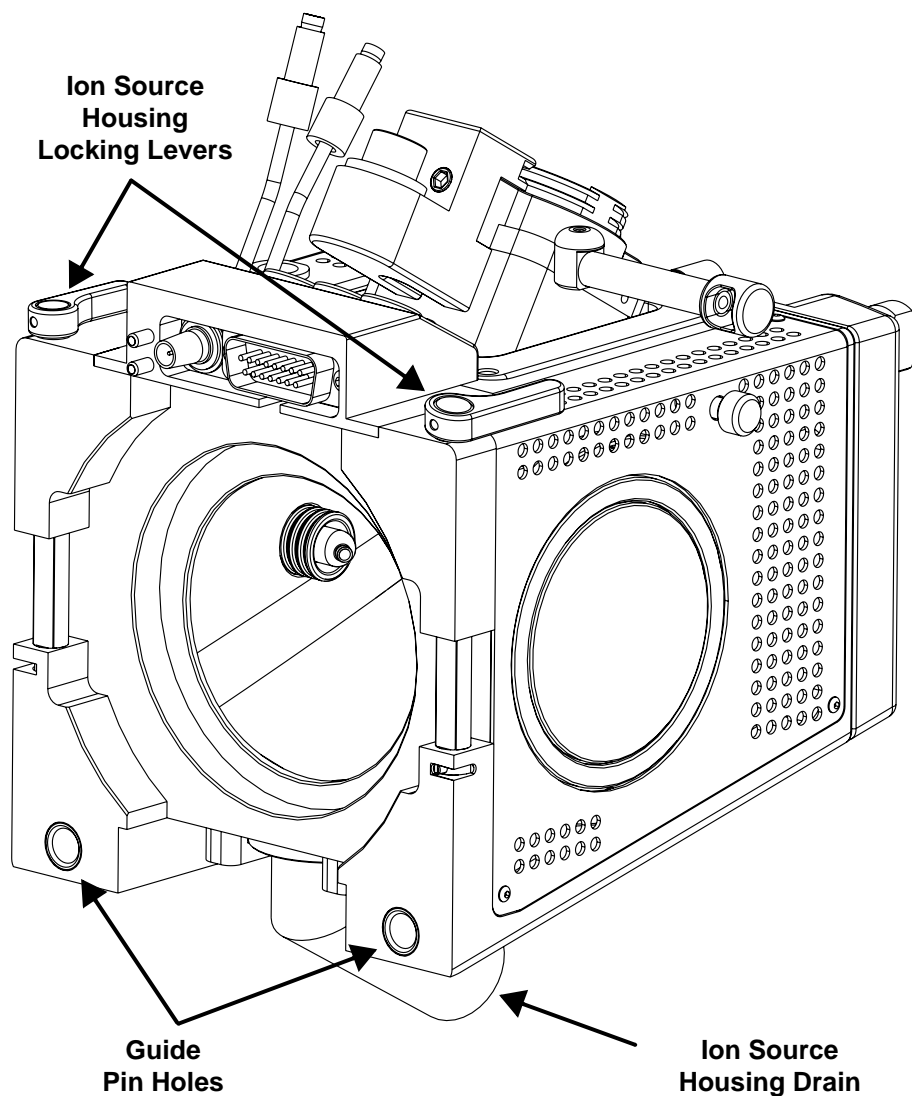
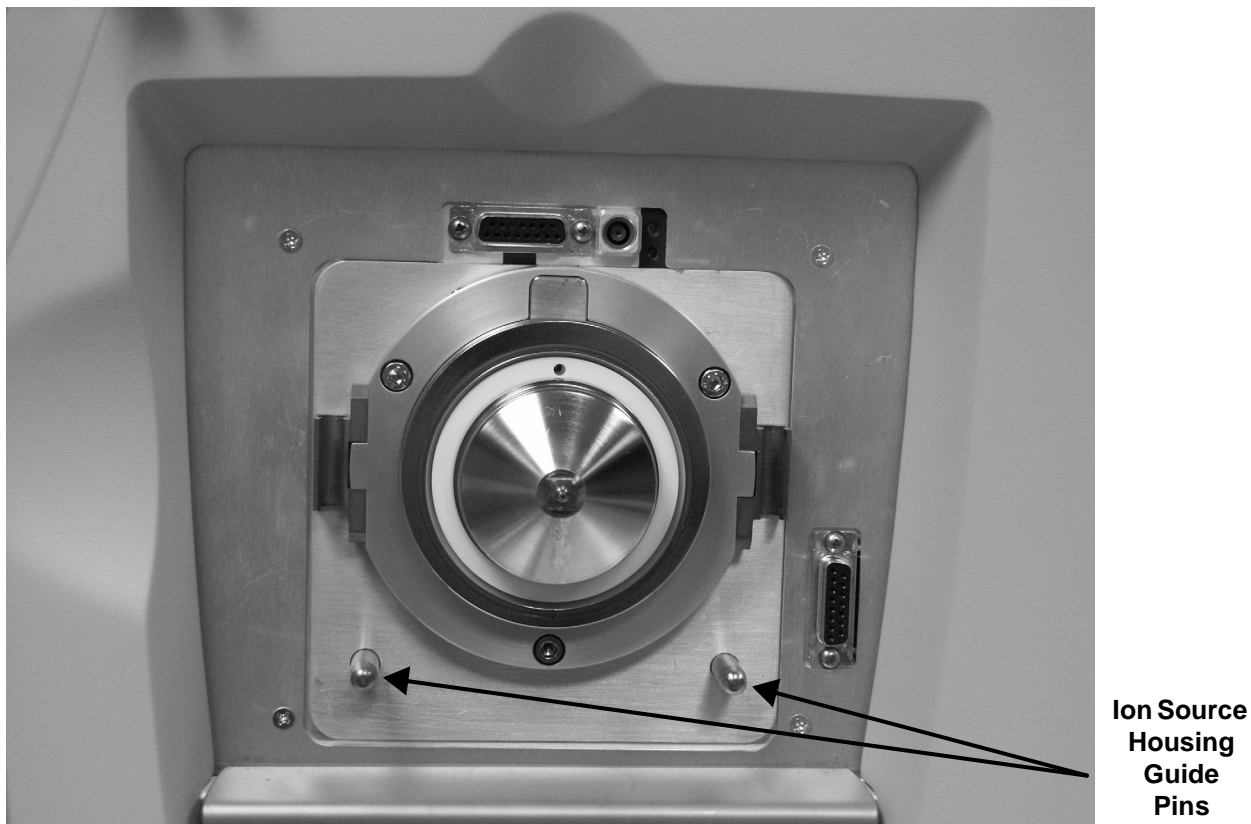

Figure 2-7. Rear view of the Ion Max ion source housing
Figure 2-8. Ion source mount showing ion source housing guide pins
1. Carefully align the two guide pin holes on the rear of the ion source housing with the ion source housing guide pins on the MS detector, and carefully press the ion source housing onto the ion source mount. See Figure 2-7 and Figure 2-8.